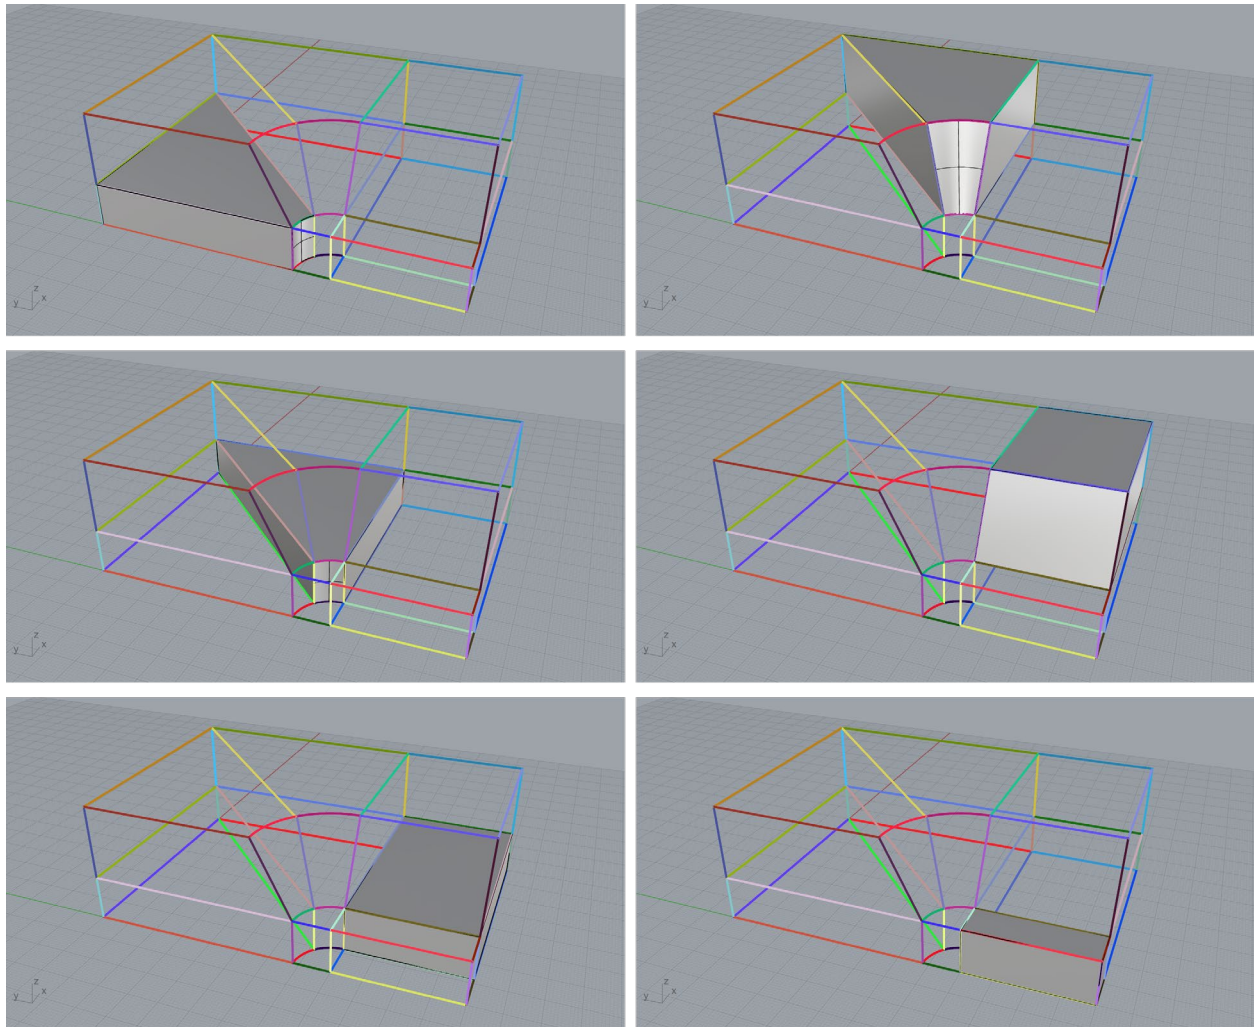

Figure 44: Building solid blocks for the model.
17. In the same manner, build all other solid blocks except for the small central block, as it requires an additional operation (described below). The stages are outlined in Figure 44.